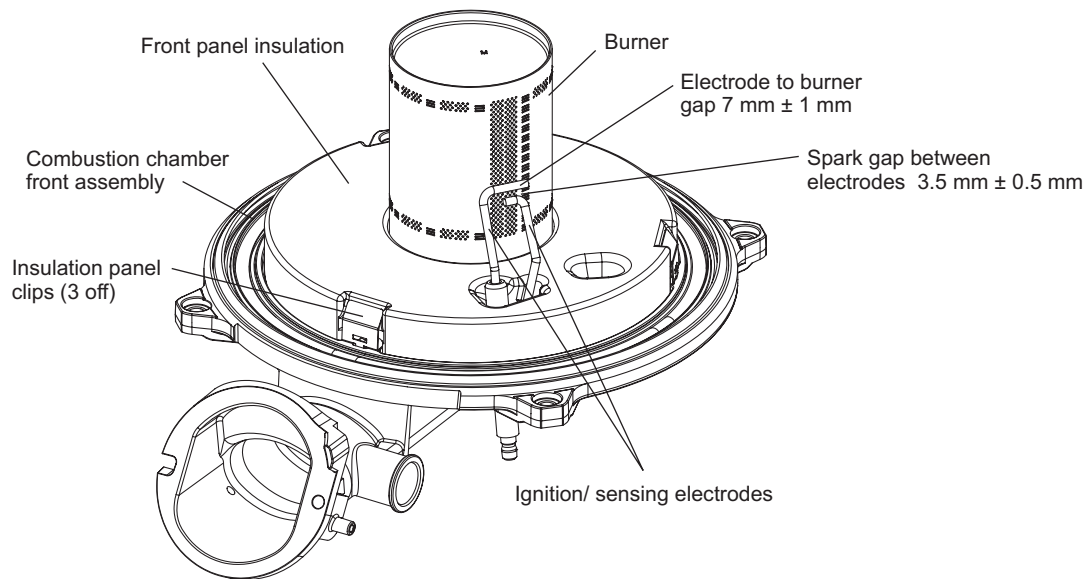

Fig. 7.3
2. Using a flat screwdriver in the slots of the three spring clips lever each clip out of its retaining groove (see Fig. 7.3) and carefully lift off the insulation panel to gain access to the burner fixings. It will be necessary to remove the electrode assembly first as described in Section 8.3.